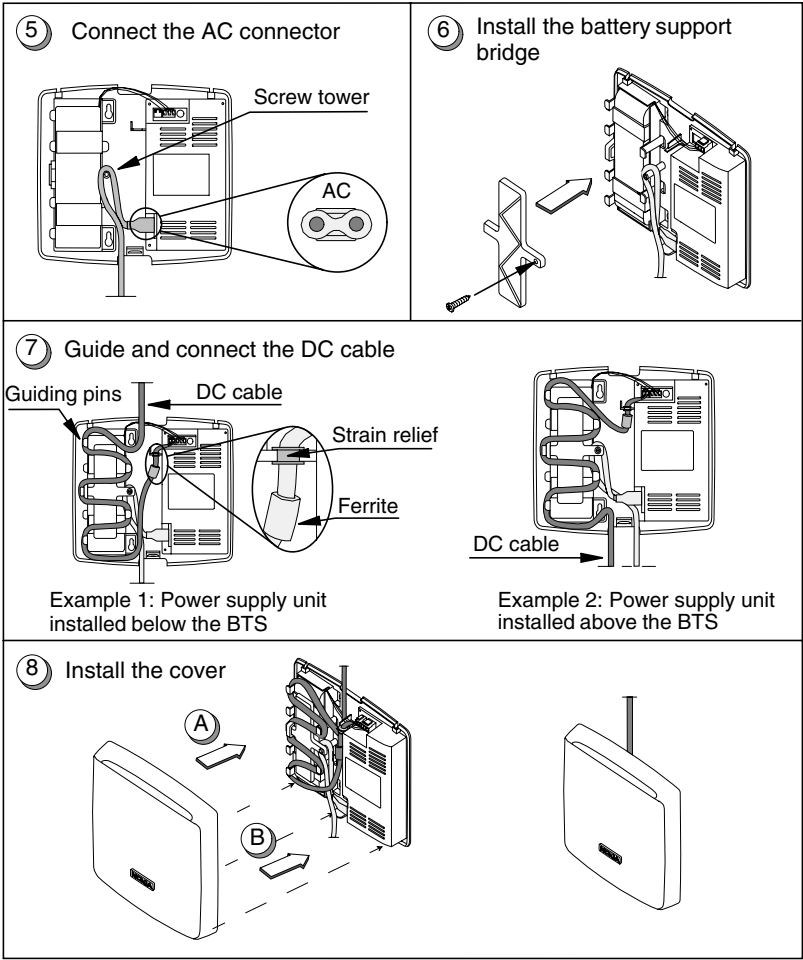

Figure 15. Installing the power supply unit (continued from Figure 14)
5. Connect the AC connector to the power supply unit. Guide the AC cable around the screw tower. See 5 of Figure 15.
6. Install the battery support bridge and tighten the screw using a pozidrive driver. See 6 of Figure 15.
7. Take the DC cable (the cable for connecting the power supply unit and the BTS) and put the excess cable around the guiding pins. Push the strain relief of the cable to the slot beside the connector. Connect the DC cable to the 2-pin connector. See 7 of Figure 15.
DC cabling depends on the installation location of the power supply unit. Two different ways are illustrated in 7 of Figure 15.
Install the power supply unit cover. First, press down the upper edge, then the lower edge, until the locking clip locks the cover on. See 8 of Figure 15.